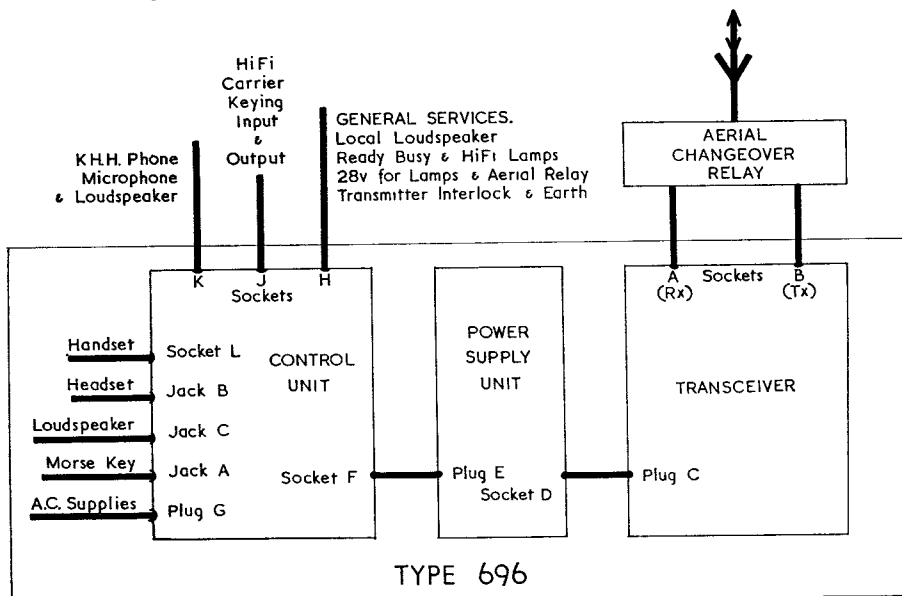

FIG. 2. TYPE 696 - INTERCONNECTION OF UNITS
8. **Interconnection of units** (See Fig. 2)